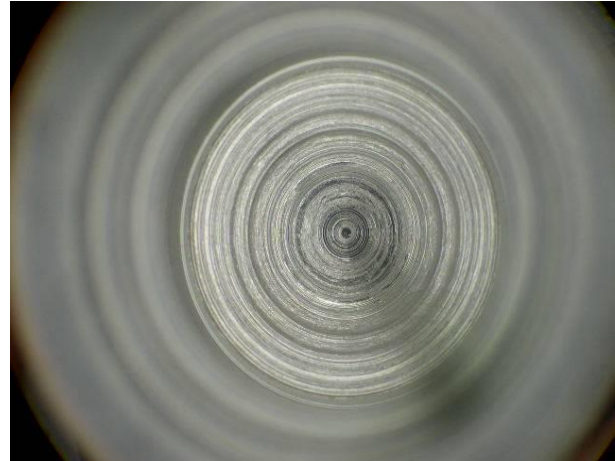

Figure 11 Bottom of Counter Bore Cleanliness Examples
- 3. Examples of an unacceptable vs. an acceptable cleanliness part (see Figure 11):